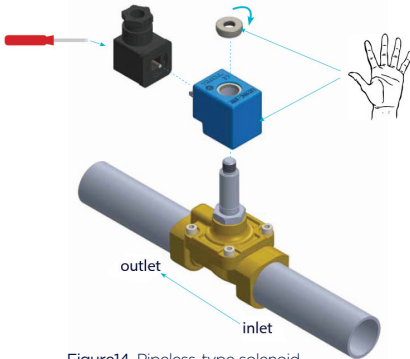
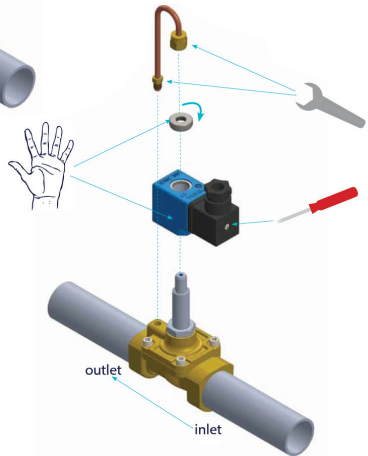
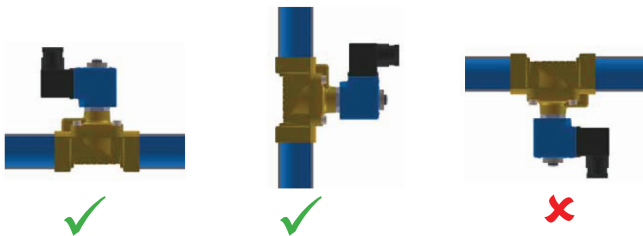

Figure14. Pipeless-type solenoid valve assembly
Figure 15. Pipe-type solenoid valve assembly
Figure 16. Solenoid valve connection form (a) Right, (b) Right, (c) Wrong
After connecting the solenoid valve to the pipe system as shown in the Figure 14 and Figure 15, the coil is placed onto the valve manually as shown in the figures. After coil is fitted, it is manually screwed with knurled nut. The cable-connected socket is fitted to the coil and then fixed with fixing screw. In pipe type solenoid valve, the pipe is placed as shown in the Figure 15 and then screwed with the relevant wrench.
**!** In solenoid valve assembly, please be careful that the coil should not be at the lower part when conducting assembly. Otherwise, the core in the hive shall be affected by the residuals and rusts accumulated in time and prevent the coil to move the core. The solenoid valve may be assembled as shown in Figure 16 a or Figure 15 b.